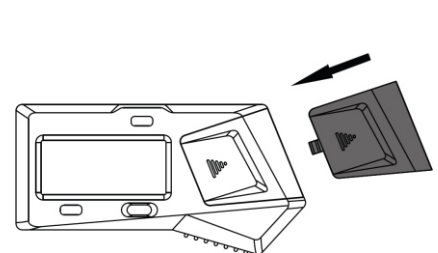

Fig. 3
- » Close the battery cover (Fig. 3).